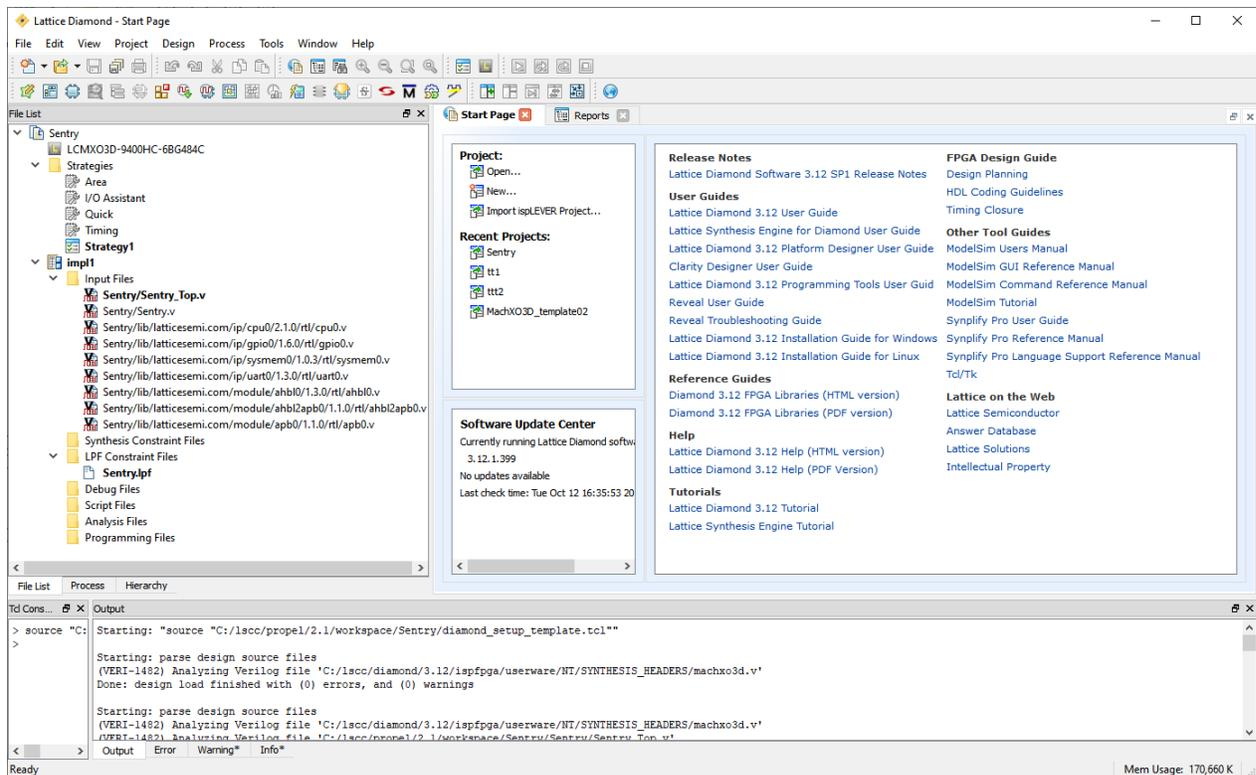

Figure 2.76. Diamond Project
2. Lattice Diamond is launched with a Diamond project generated for SoC at the background (Figure 2.76).